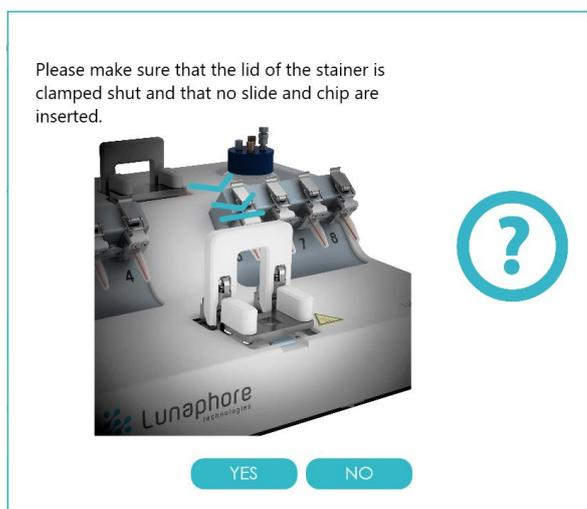

Figure 44) Pop-up reminding the user to clamp the lid of the stainer shut before Select and Wash protocols and Daily Wash protocols.
7. Clamp the lid of the stainer shut and make sure that no chip and no slide are inserted (Figure 44).
6. Clamp the lid of the stainer shut and make sure that no chip and no slide are inserted (Figure 44).